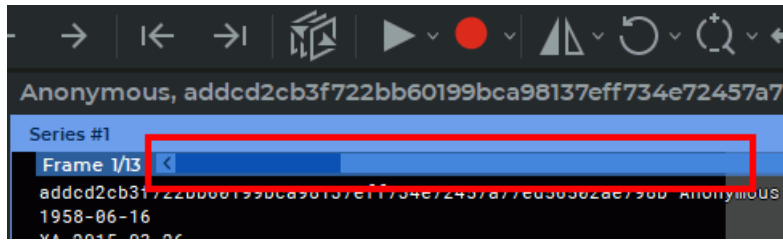

Figure 2.83: Frame Scroll Bar
3. Scroll through the frames by moving the slider or rotating the mouse wheel, hovering the cursor over the scroll bar on the Frame Scroll Bar (Fig. 2.83).
6. Scroll through the images by moving the slider or rotating the mouse wheel, hovering the cursor over the scroll bar on the Frame Scroll Bar (Fig. 2.83).